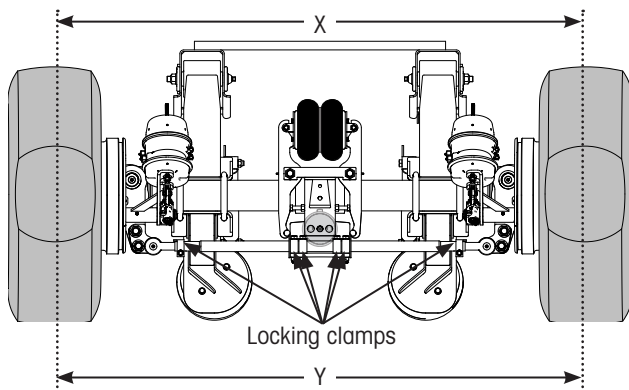

Figure 32: Toe-in Measurements
7. While rotating wheel, **scribe** a narrow line on the tire tread all the way around the tire (Figure 32). This will aid in the measurement of "X" and "Y".